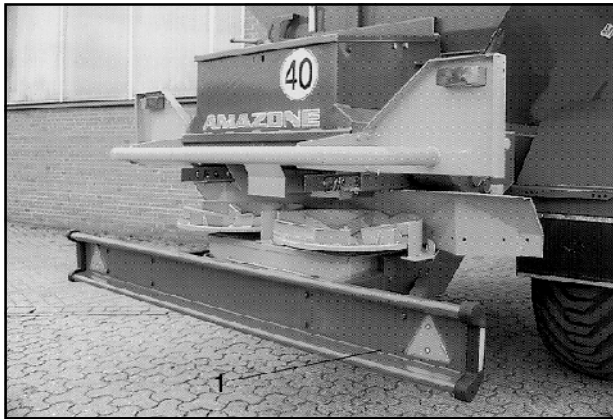
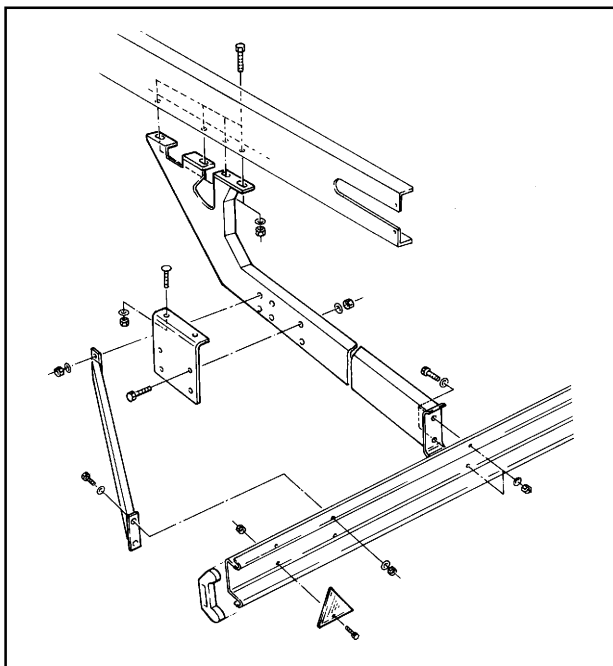

Fig. 16.1
Fig. 16.2
9. If the maximum permissible speed is greater than 25 km/h, the bulk precision broadcaster must be fitted with a rear barrier (fig. 16.1/1) as shown in fig. 16.2.